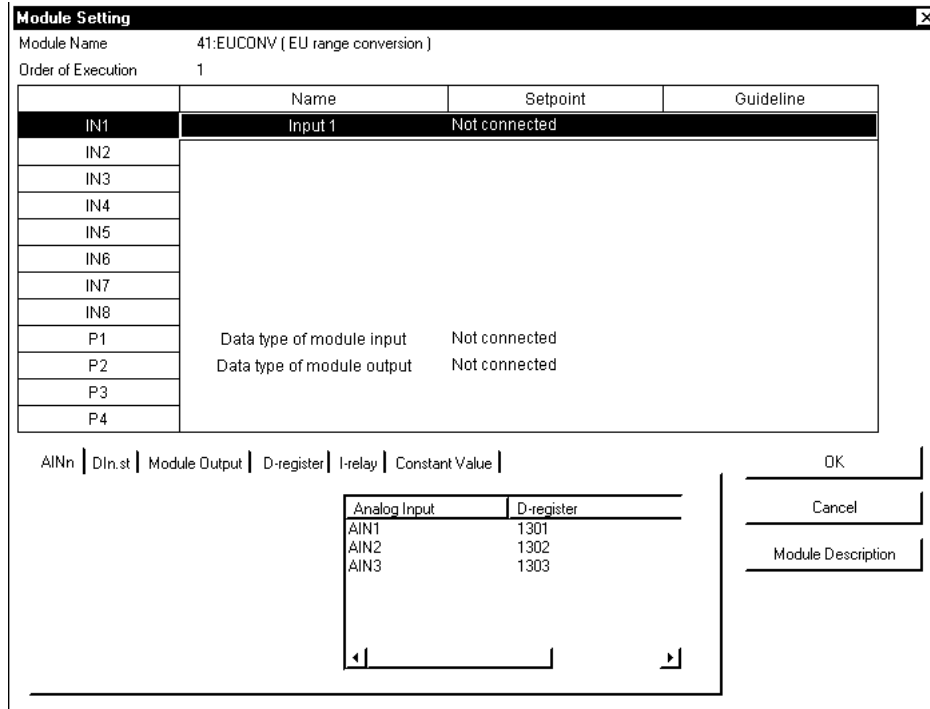

Figure 12.1.8 [Module Setting] Dialog Box
- ① Click the registered first-run EUCONV module.
- ≠ From the tool menus, choose <Editing>, then <Connection>. The [Module Setting] dialog box (Figure 12.1.8) appears.